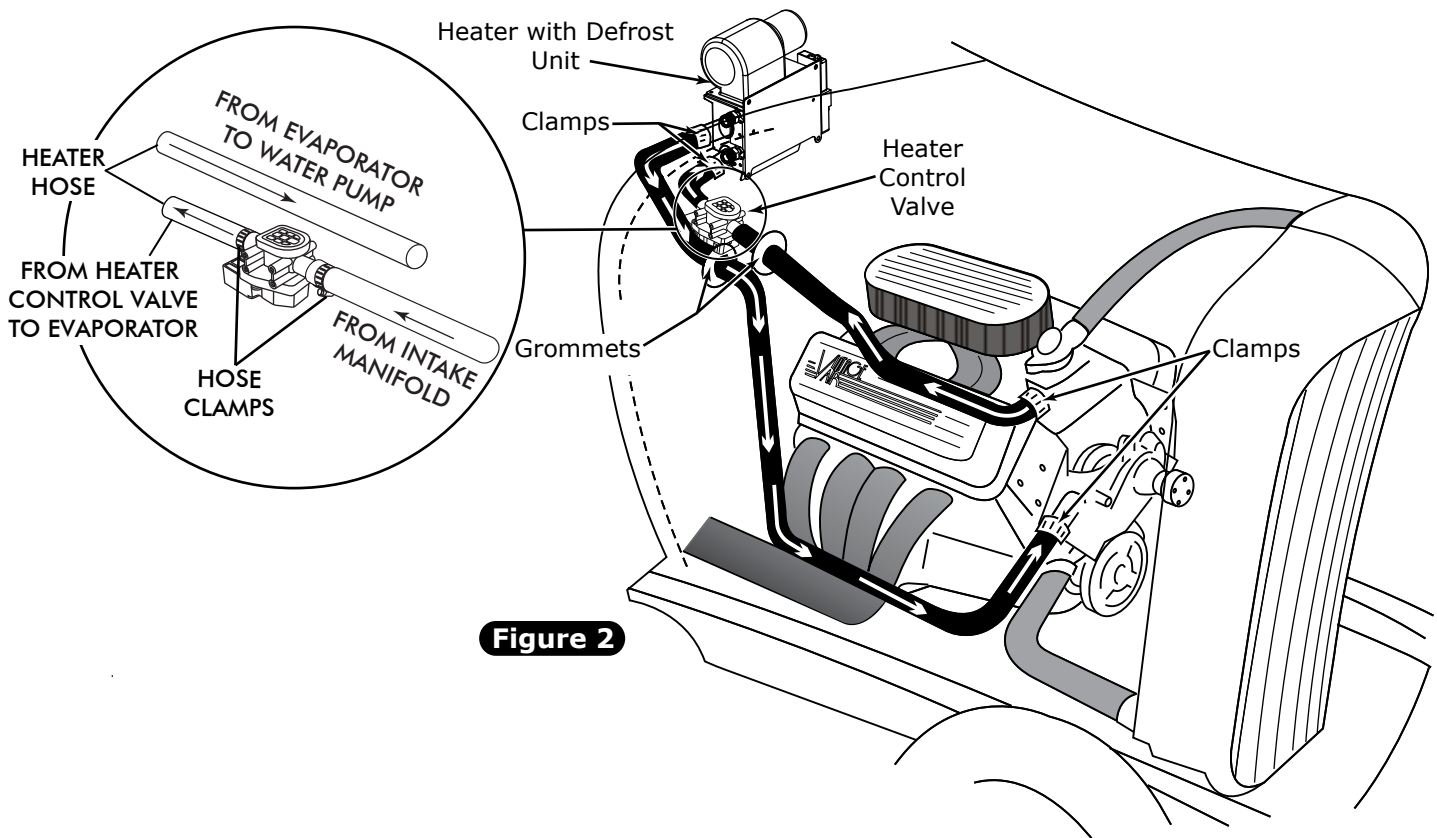

Figure 2
1. Route a piece of heater hose from the water pump to the top heater fitting of the heater core as shown in Figure 2, below. Secure using hose clamps.
2. Route a piece of heater hose from the intake to the bottom heater fitting of the heater core as shown in Figure 2, below. **NOTE: Install heater control valve inline with the intake manifold (pressure side) heater hose, and secure using hose clamps as shown in Figure 2, below. Also note proper flow direction.**